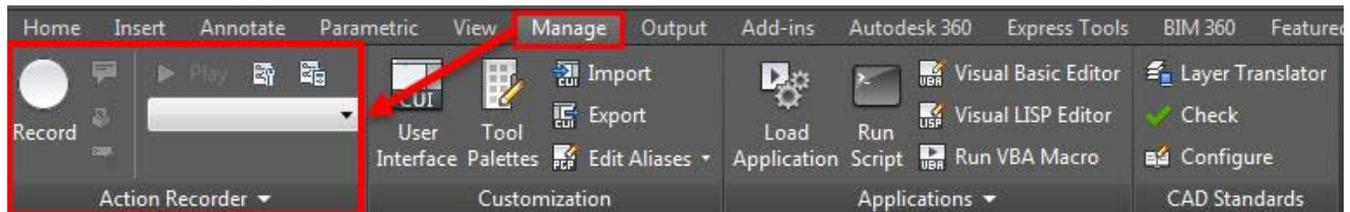

Figure 1: The Action Recorder
A macro (in many different programs) can be defined as a way to automate a task that you perform repeatedly with more than one command or keystroke. In AutoCAD macros can be shortcuts to a series of commands to help make the process of design more efficient. In Figure 1 a macro is stated as a single instruction. Use the action recorder to record a series of commands and build a macro then run it automatically to repeat a series of steps. To write a macro, you type the commands in the macro properties section as you'd type them in at the command line. If a command displays a dialog box, you would place a dash in front of the command to suppress the dialog box. We will cover special characters as we begin to build our macros.
The action recorder is simply a tool to record macros for later use. Most users don't have the time or want to pursue the training in LISP, DIESEL and VBA. This is where the action recorder can help you. You simply start the recorder and AutoCAD will read the commands you input then save as a macro in your custom location. You can include requests for user input and messages to make the macro work interactively. When you save a macro, it has an ACTM filename extension. You'll find it in your Support\Actions folder of your AutoCAD installation. You can share ACTM files with others users on your team by placing them on a network or shared drive. You'll find the Action Recorder on the Tools tab, in the Action Recorder panel as shown in Figure 1. You can also choose Menu Browser (the A button)> Tools> Action Recorder.
The Action Recorder is a panel on the ribbon under the Manage tab (Figure 1) that contains tools to record, modify, and play back an action macro. While recording, actions, commands, and input values are captured and displayed in the Action Tree as value nodes. A value node records the input provided at any prompt within a command, including acquired points, text strings, numbers, keywords, or other values that are entered when recording a command. After recording is stopped, you can save captured commands and input to an action macro (ACTM) file which can be played back later. Once saved, you can specify base points, insert user messages, or change the behavior of recorded input values to pause for input during playback. You can also manage recorded action files with the Action Macro Manager from inside of the product or through the file system from outside the product.
2. Move over to the manage tab on the Ribbon and select Record as shown below in Figure 1.